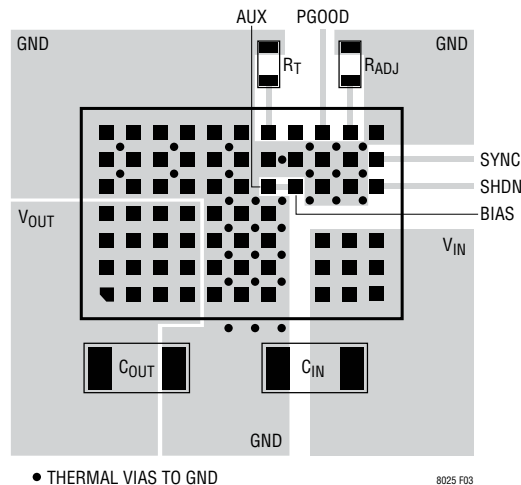

Figure 3. Layout Showing Suggested External Components, GND Plane and Thermal ViAs
Most of the headaches associated with PCB layout have been alleviated or even eliminated by the high level of integration of the LTM8025. The LTM8025 is nevertheless a switching power supply, and care must be taken to minimize EMI and ensure proper operation. Even with the high level of integration, you may fail to achieve specified operation with a haphazard or poor layout. See Figure 3 for a suggested layout. Ensure that the grounding and heat sinking are acceptable.
6. For good heat sinking, use vias to connect the GND copper area to the board's internal ground planes. Liberally distribute these GND vias to provide both a good ground connection and thermal path to the internal planes of the printed circuit board. Pay attention to the location and density of the thermal vias in Figure 3. The LTM8025 can benefit from the heat-sinking afforded by vias that connect to internal GND planes at these locations, due to their proximity to internal power handling components. The optimum number of thermal vias depends upon the printed circuit board design. For example, a board might use very small via holes. It should employ more thermal vias than a board that uses larger holes.